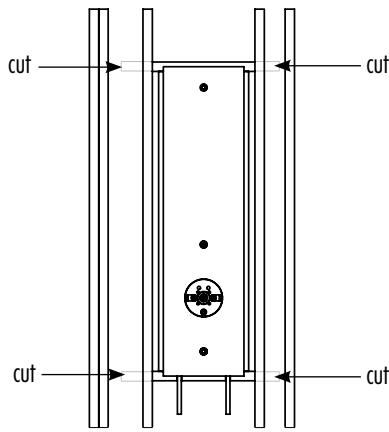

figure 11
4. Make cut location marks on the horizontal 2 x 4's of the Plumber's Upgrade. The marks should line up with the inside edge of the existing 2 x 4 wall studs (fig. 11).